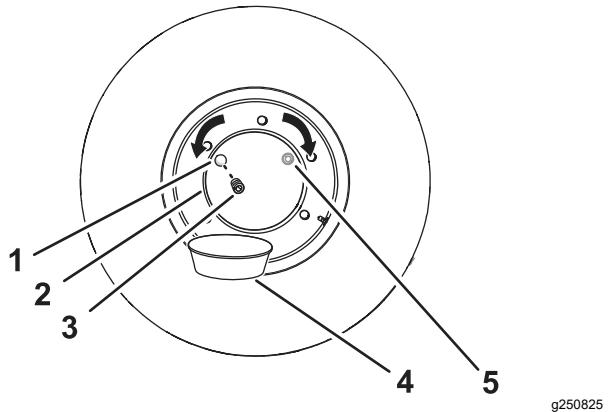

Figure 95
2. Move the machine forward or backward until the plug for the wheel hub is at either the 10 o'clock or 2 o'clock position (Figure 95).
4. Place a drain pan under the drain port in the wheel hub (Figure 95).
5. Remove the plug from the wheel hub (Figure 95).
6. Check that the oil level is at the bottom of the threads of the oil port (Figure 95).
8. Install the plug in the oil port of the wheel hub (Figure 95).
1. Move the machine forward or backward until the oil plug for the wheel hub is at the 12 o'clock position; refer to Figure 95 in Checking the Oil Level in the Wheel Hubs \(page 69\).